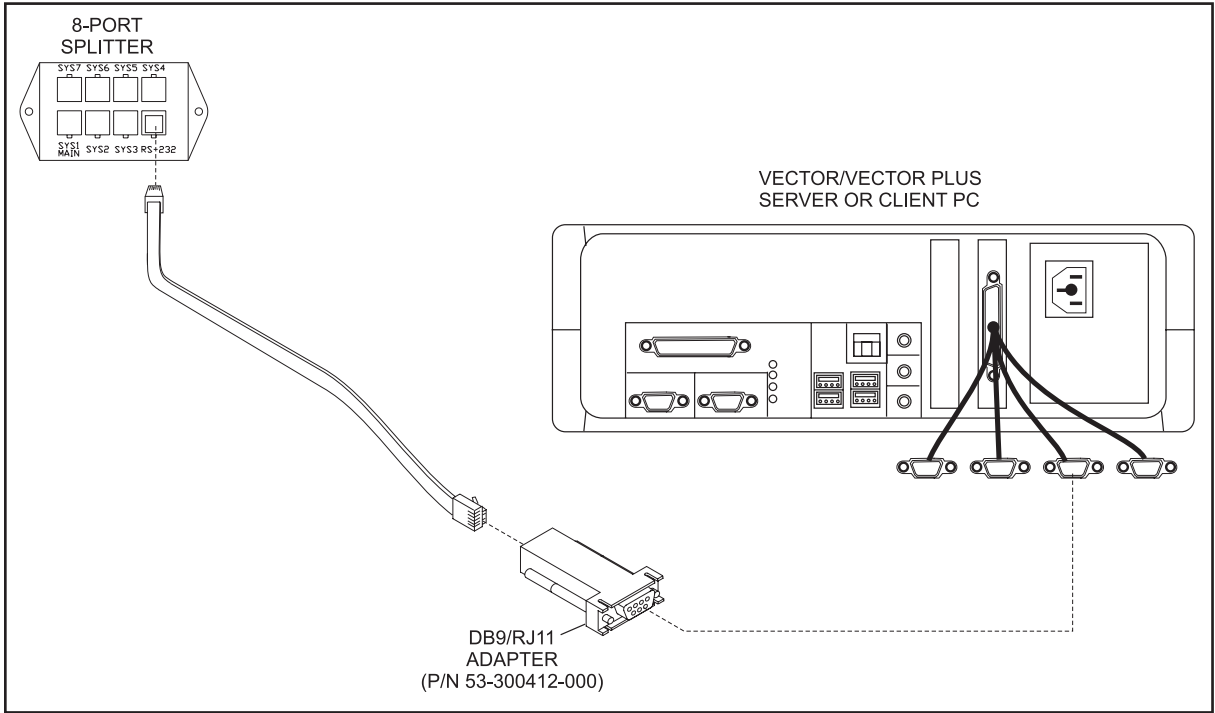

Figure 77
2. The maximum length of any of the 4-conductor RJ-11 communication cables is 1000 feet. Refer to *Figure 77*. The home run cable is a 4-conductor cable with 6-conductor connectors.